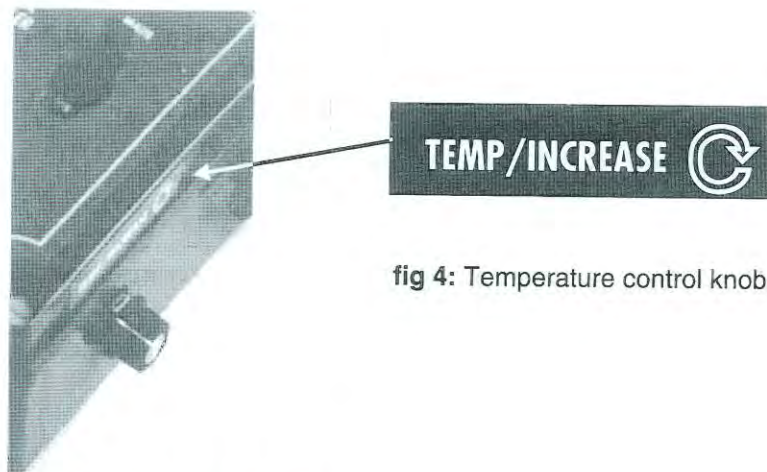

fig 4: Temperature control knob
- 2/ Turn the thermostat control knob around clockwise to high to allow system to operate. (fig 4)
The thermostat adjustment (knob located on side of control box fig 4:) may need to be adjusted slightly for the first few days of operation to obtain the desired temperature of 36°C or that which is comfortable to the bather.